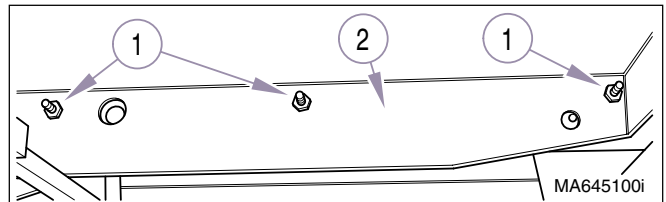

Figure 4-21. Foot Extension
- (8) Drill out the six pop rivets that hold slides to foot section weldment (7) and remove the foot section (7).
- (9) Remove the nuts and lockwashers (1, Fig. 4-21) that secure the slides to the seat weldment (2) and remove the slides and the foot section weldment.
- (1) Install the foot slides onto the seat weldment (3, Figure 4-21) and secure with the lockwashers (2) and nuts (1).